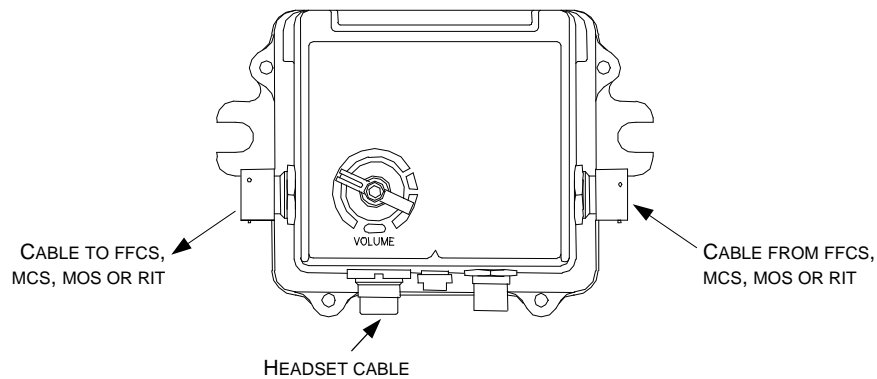

Figure 3-3. Monitor Only (Crew) Station (MOS)
3.4. MOS REMOVAL AND REPLACEMENT (Fig. 3-3)